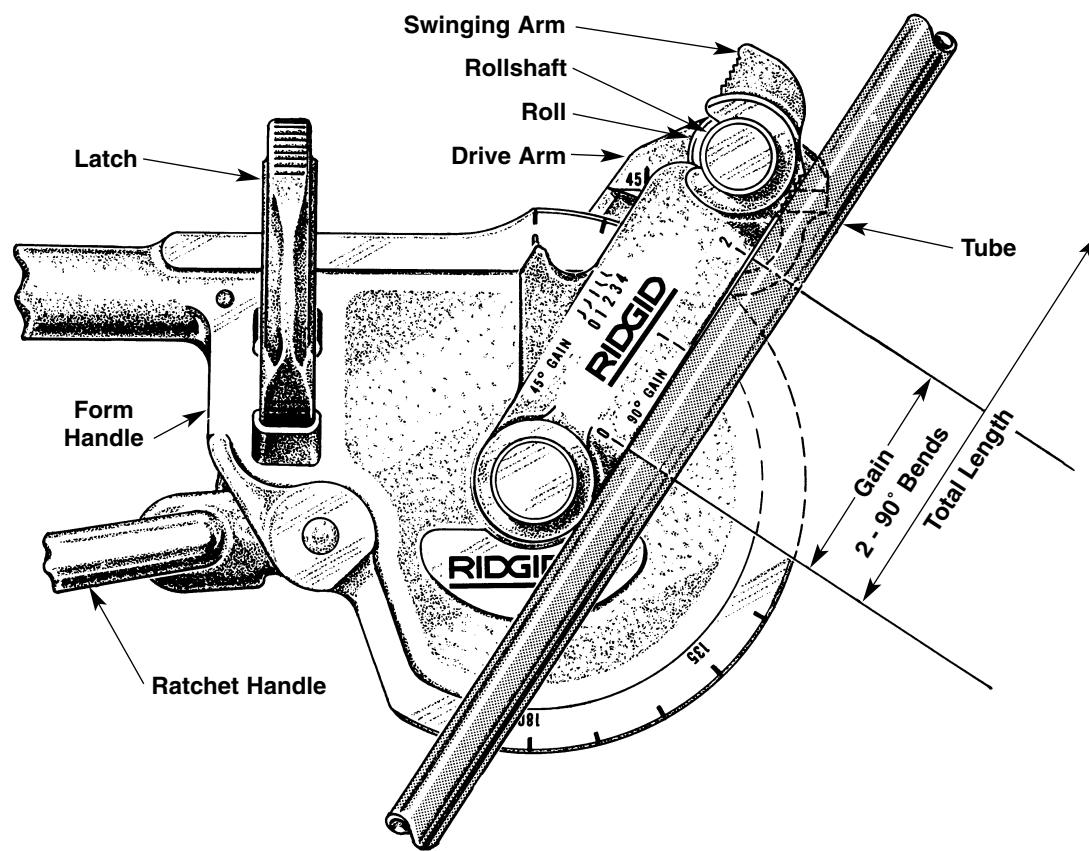

Figure 2
2. Because most blueprints are dimensioned as though all corners were square, less tube is actually required than the total of the blueprint dimensions. Therefore, REDUCE the total length by the number of bends, using the Gain Scales on the Swinging Arm. (See Figure 2)
3. Reduce the measured length of tube from Step 1 by one graduation for each 90° bend using the scale marked "90° Gain". Reduce Length of tube by one graduation for each 45° bend using the scale marked "45° Gain". (See Figure 2) Mark tube and cut.